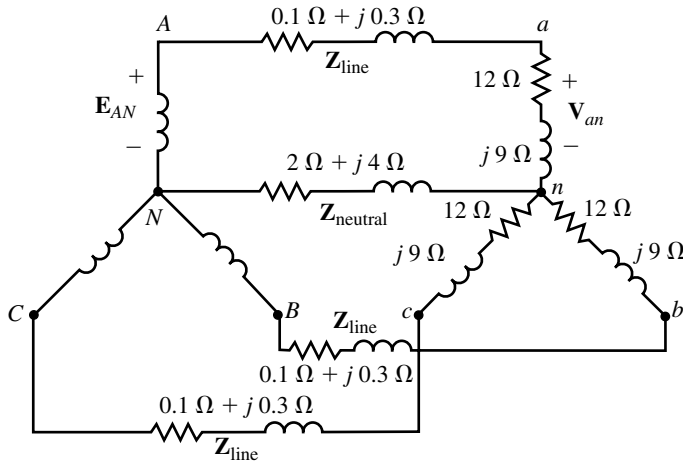

FIGURE 23-48
27. For the circuit of Figure 23-48, assume $\mathbf{Z}_{\text{line}} = 0.15 \Omega + j0.25 \Omega$ and $\mathbf{V}_{ab} = 600 \text{ V} \angle 30^\circ$. Determine \mathbf{E}_{AB} .